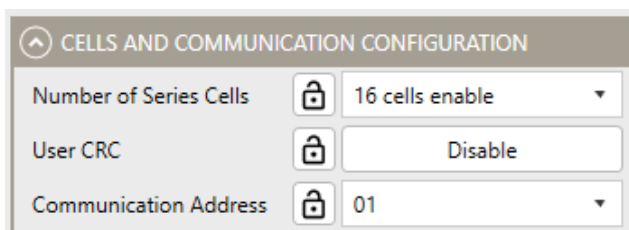

Figure 11: Cell and Communication Configurations
6. Configure the cells and their communication (see Figure 11 on page 10).